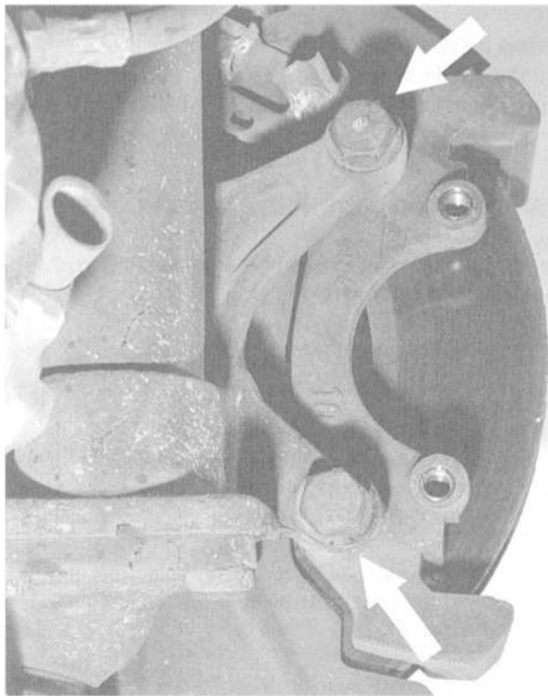

Fig. 8. Front brake pad carrier mounting bolts (**arrows**) Rear mounting bolts are similar.
2. Remove the pad carrier mounting bolts from the strut assembly (front caliper) or from the trailing arm (rear caliper). See Fig. 8.